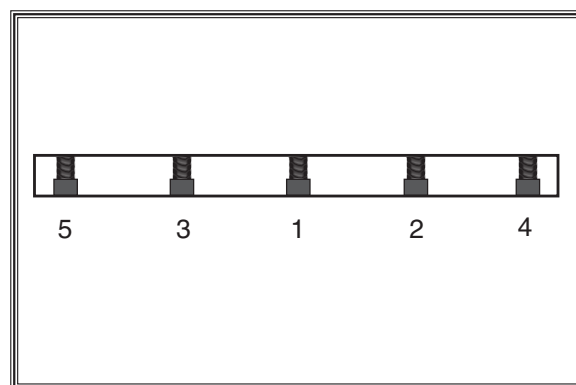

Figure 45. Gib bolt tightening sequence.
8. Rotate the cutterhead to the first knife you started with. Slightly tighten all the gib bolts, starting at the ends and working your way to the middle by alternating left and right (**Figure 45**). Repeat this step on the rest of the knives.